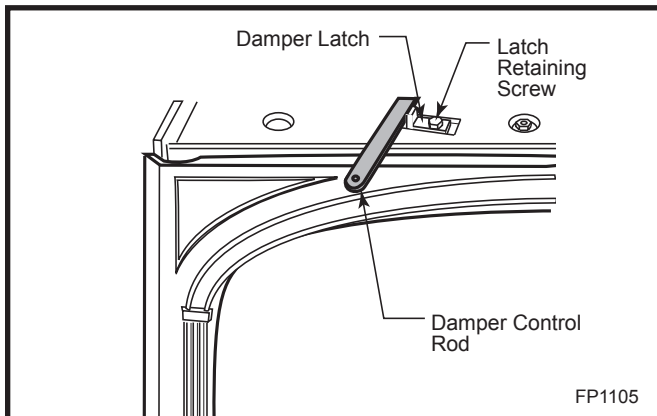

Fig. 15 With the mantel removed, the damper latch is exposed for adjustment.
To inspect how well the damper seals, first make sure the fire is out and the WinterWarm Small Insert is cool. Open the front door, and close and lock the damper. Inspect how the damper plate seals against the damper frame. (Fig. 15)
2. With the Damper Control Lever in the open position (to the right), loosen the retaining screw on the Damper Latch by turning it counterclockwise. (Fig. 15)